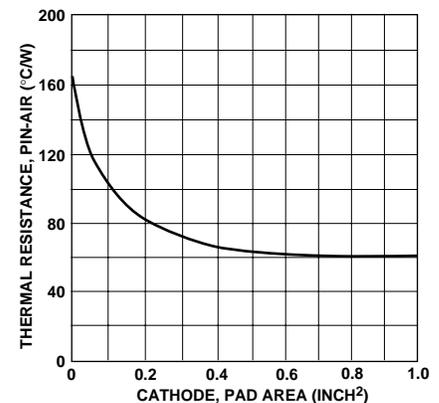

Figure 1. Printed Circuit Thermal Resistance (θ_{P-A})
As a last step, the thermal resistance, pin to air, can be estimated by measuring the thermal resistance of different sized copper pads on the printed circuit board. For all Agilent LEDs (except AlGaAs), this copper pad should be connected to the cathode pin. The thermal resistance, pin to air, as a function of cathode pad area is shown in Figure 1.
- θ_{P-A} = Thermal resistance, from Figure 1